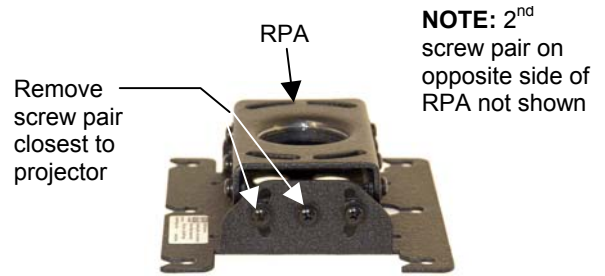

Figure 5. Remove front screw pair from RPA
1. On the RPA, remove two screws from the first set of slotted holes on the RPA (see Figure 5).